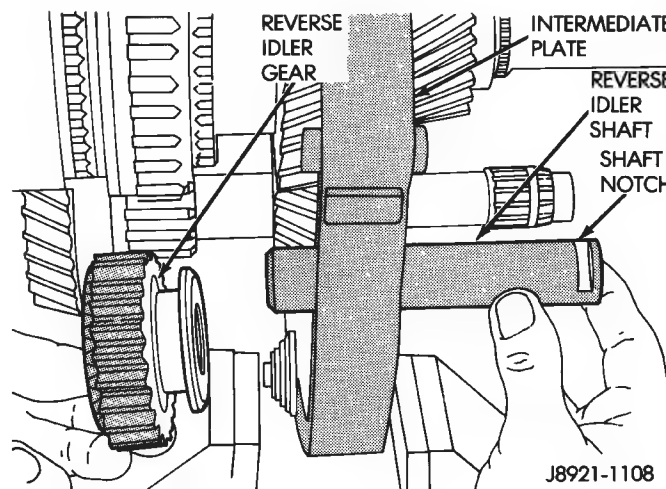

Fig. 83 Installing Reverse Idler Gear And Shaft
- (7) Install reverse idler gear and shaft (Fig. 83).